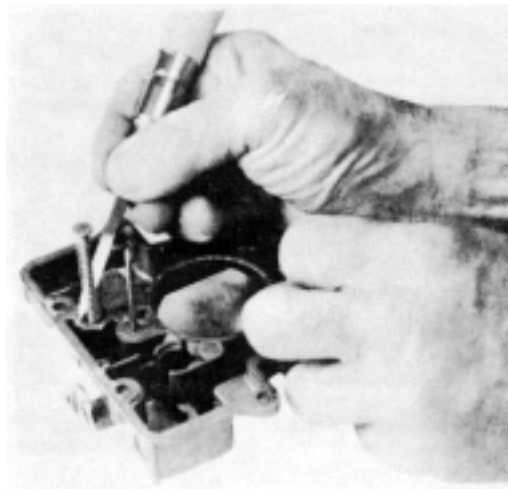

FIG. 12. Remove Staking from Vacuum Piston Retainer
7. With a hearing scraper or a scraper ground from an old triangle file remove all the staking from the vacuum piston retainer (Figure 12).